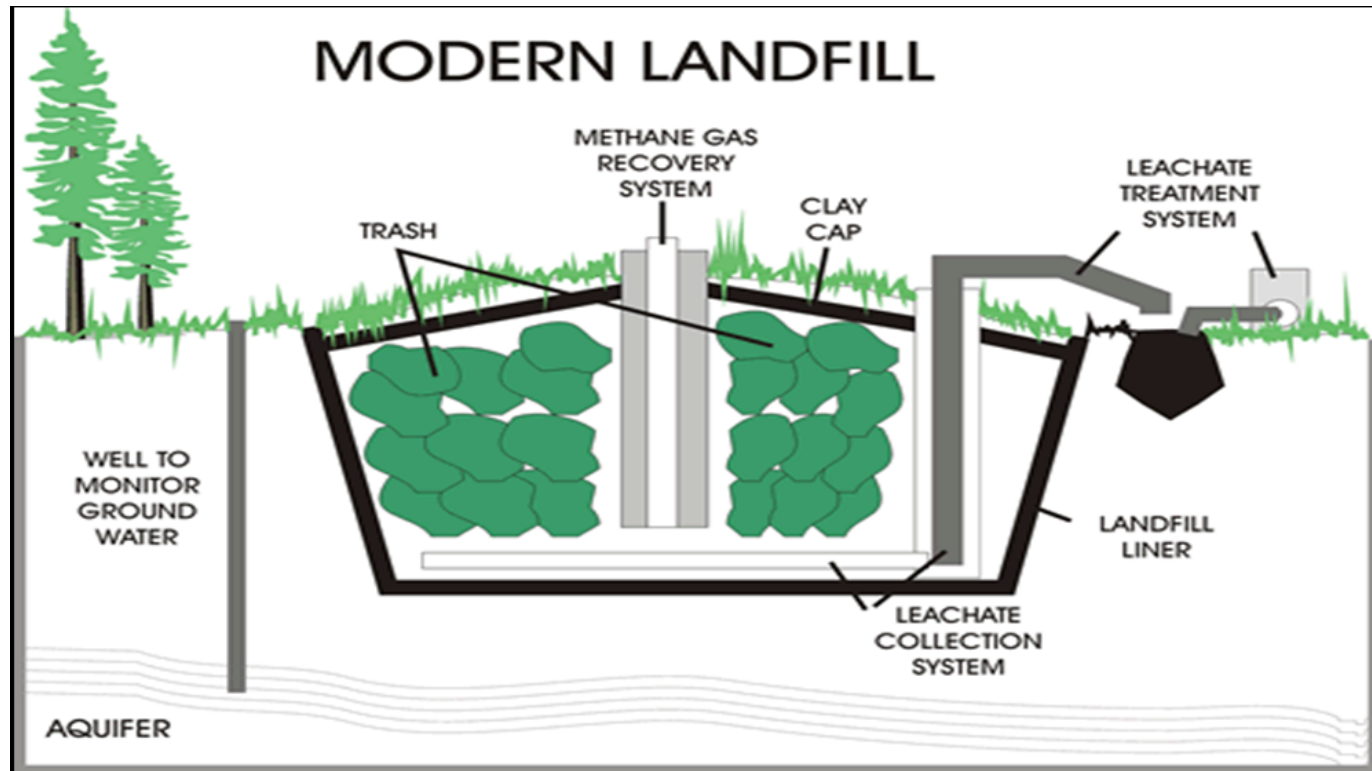

Figure 2: Landfill methane recovery design, as encouraged by EPA. After Utah State University .
- leachate and methane recovery systems (Fig. 2) are now standard on most landfills